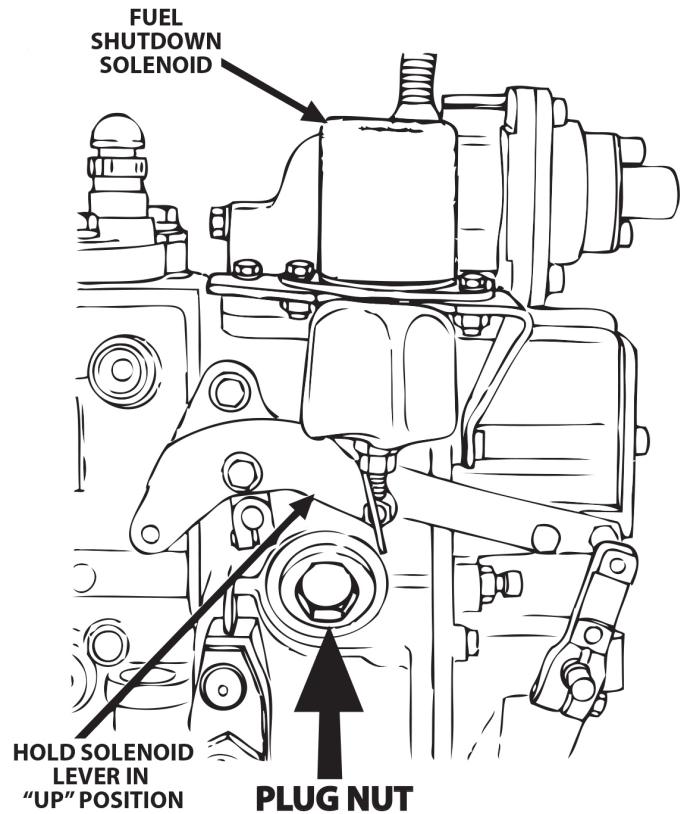

Fig. 106 Fuel Shutdown Solenoid Lever in Up Position
- 9 Once the solenoid is removed you will see a plug nut (as shown in Fig. 106), using a 7/8" socket loosen and remove this nut. It will be necessary to hold the linkage over to one side to attain clearance to remove the nut.